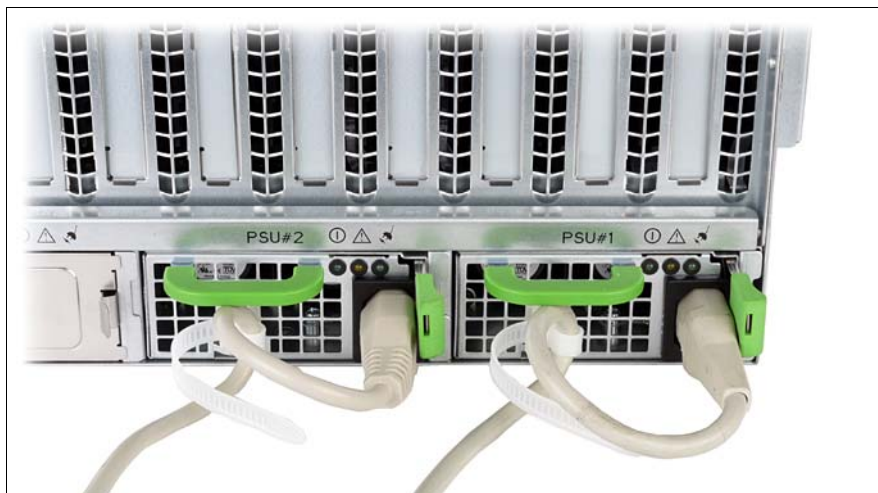

Figure 6: Cable clamps to secure the power cords
- ▶ Thread the cable through the cable clamp as shown in figure 6.